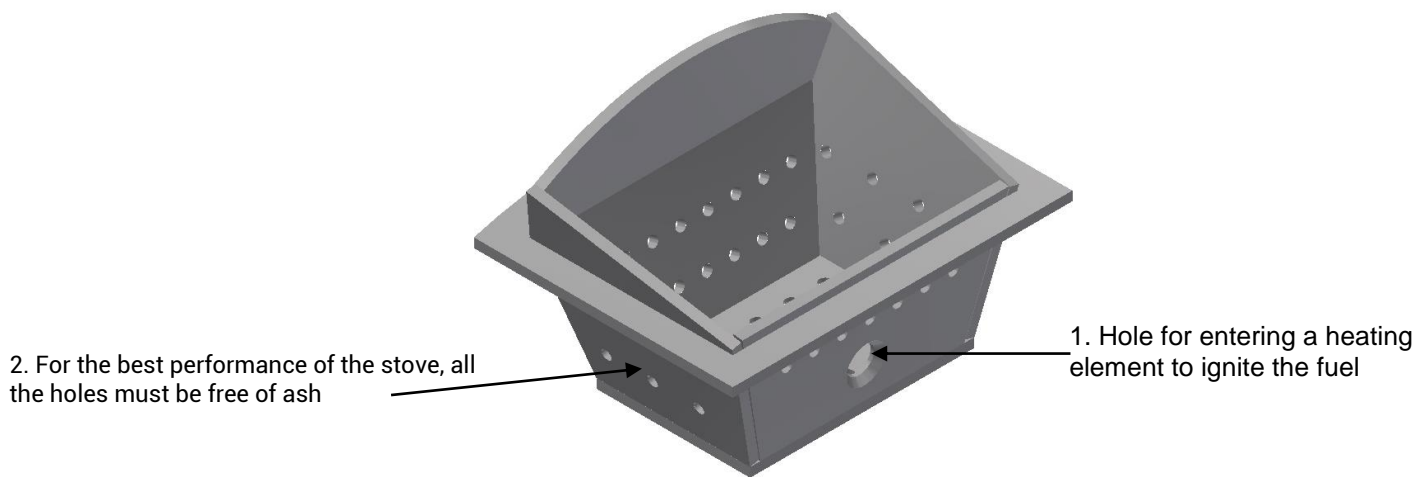

Figure 11
- FIREBOX (box-shaped) is a place where wood mass pellets burn. See Figure 11 It is recommended that the firebox should be cleaned with a vacuum cleaner after each use (when the stove is cool). After every third use, it is recommended that the firebox should be taken out for ensuring that there is no excessive ash accumulated at the bottom of the firebox. Then place the firebox back in its place, making it stable, to ensure the safe operation of the stove.